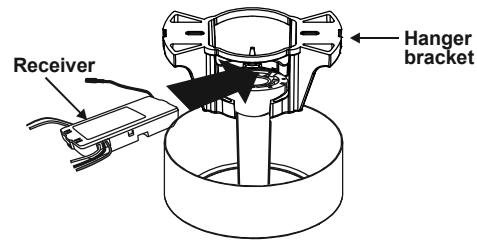

Figure 11
1. Insert the receiver into the hanger bracket with the flat side of the receiver facing the ceiling. (Fig. 11)